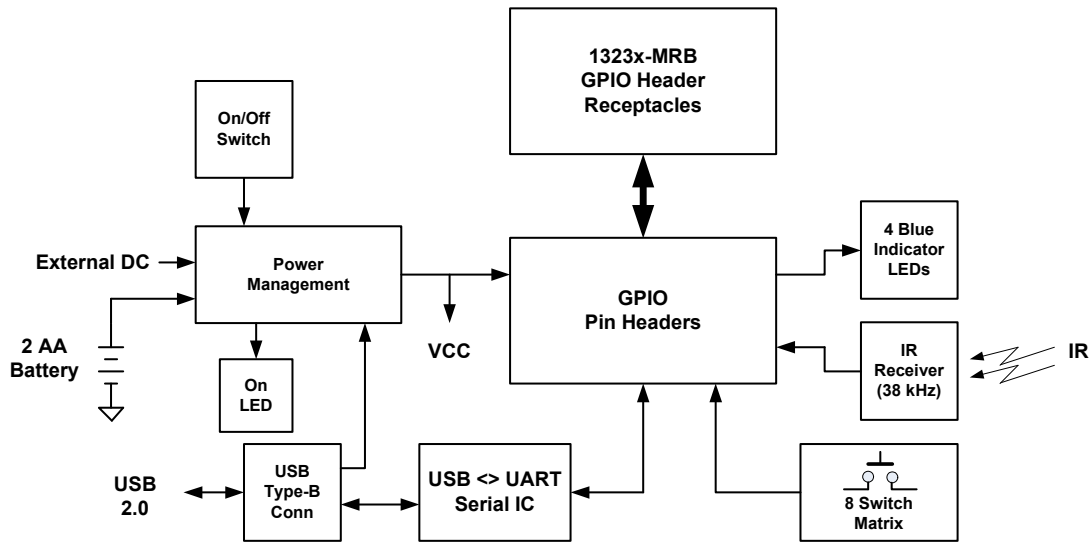

Figure 5-2. 1323x-REM Block Diagram
The 1323x-REM is a simple host motherboard for the 1323x-MRB. The two-board combination provides a simple evaluation and development platform for the MC13233. Figure 5-2 shows a simple block diagram. The 2-layer board provides a flexible power supply, eight pushbutton matrix, four indicator LEDs, IR receiver, and a USB \leftrightarrow UART serial port.
- Figure 5-2 for the functional blocks